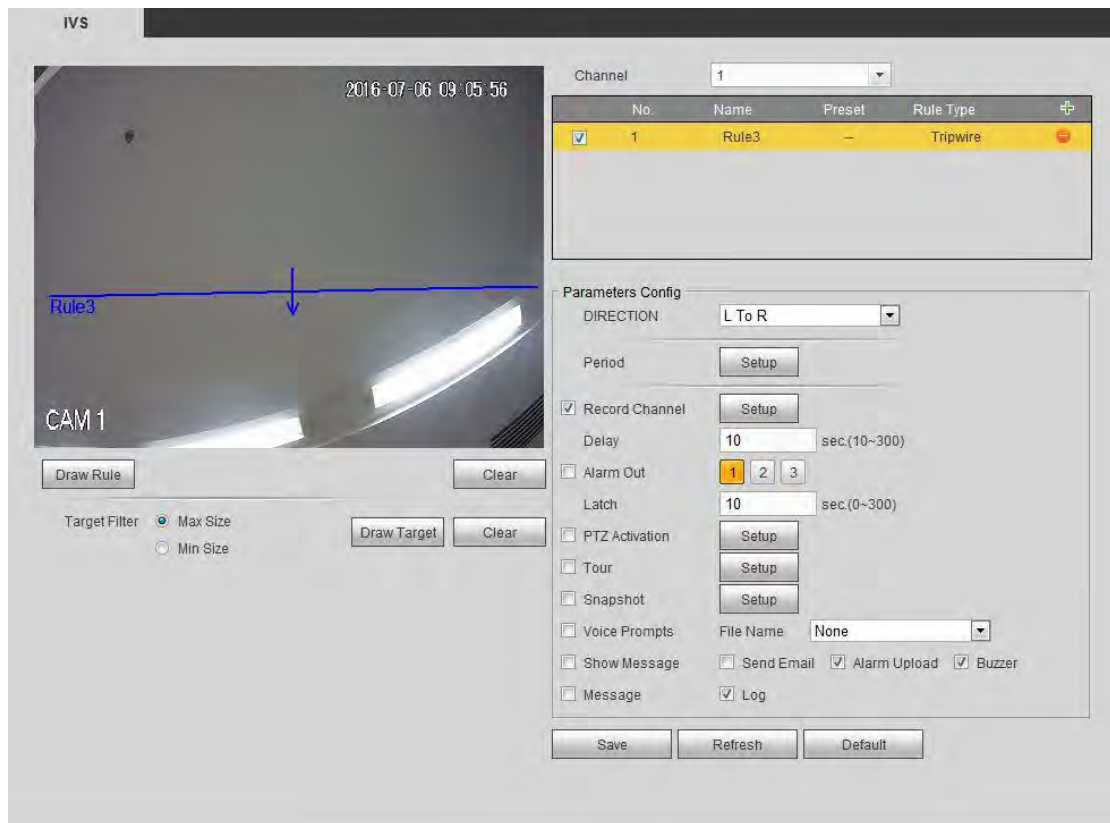

Figure 5-79
Step 3 Click Draw rule button and then left click mouse to draw a tripwire. Right click mouse to complete. See Figure 5-79.